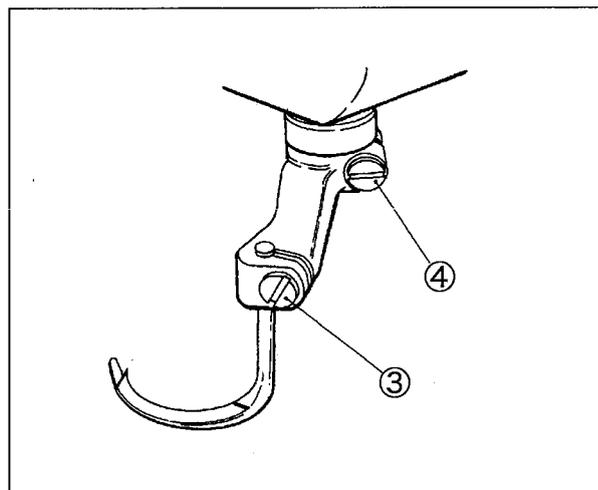

Fig. 6-7
- (1) Loosen the screws ③ and ④ of the spreader holder. (Fig. 6-7)